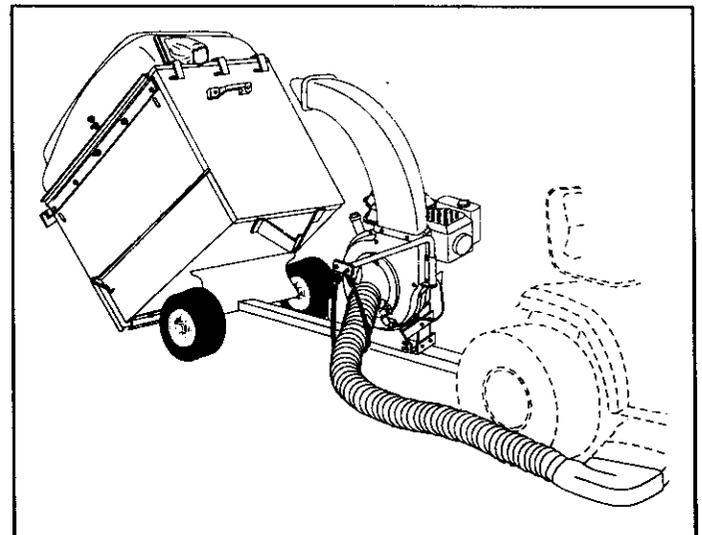

FIGURE 35
- Release latch lock lever on tongue and tip cart back. See figure 35.